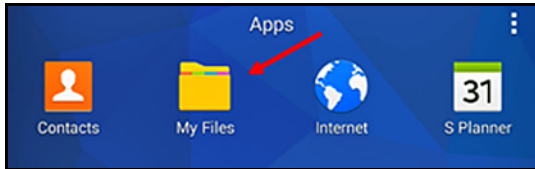

Figure 3: The “My Files” Folder
1. Open the “My Files” folder on the tablet screen (see *Figure 3* below) and select the APP from the SD folder.